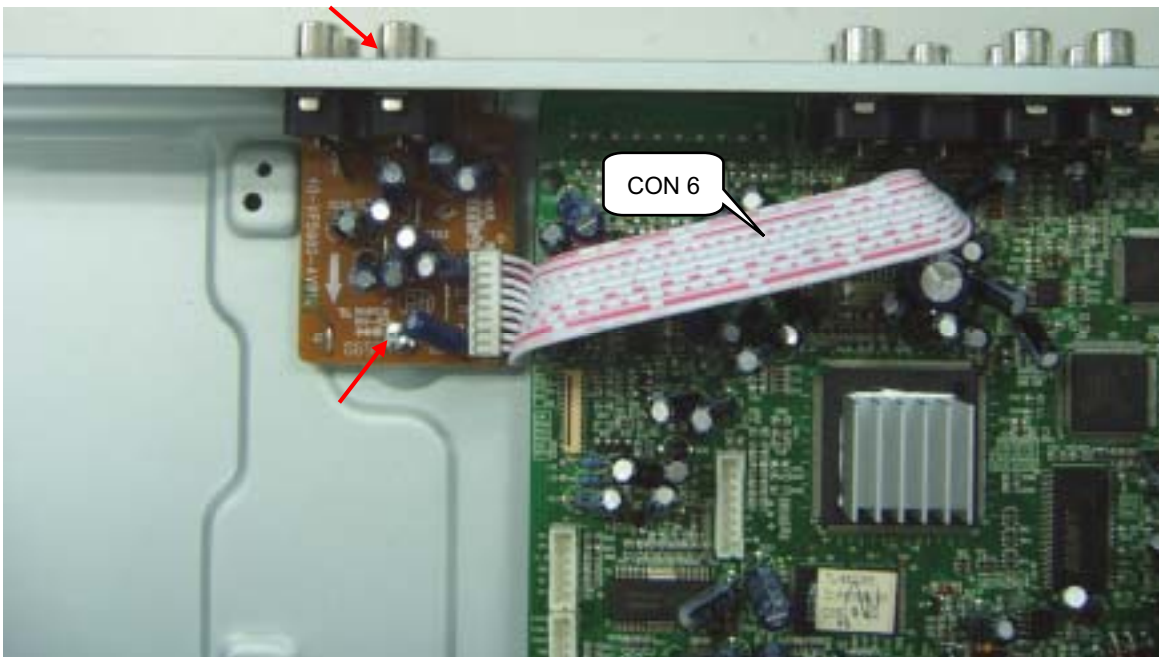

Figure 8
Step6: Dismantling AV Board, first disconnect the 1 connector, and then remove 2 screws to remove the AV board. (Figure 8)